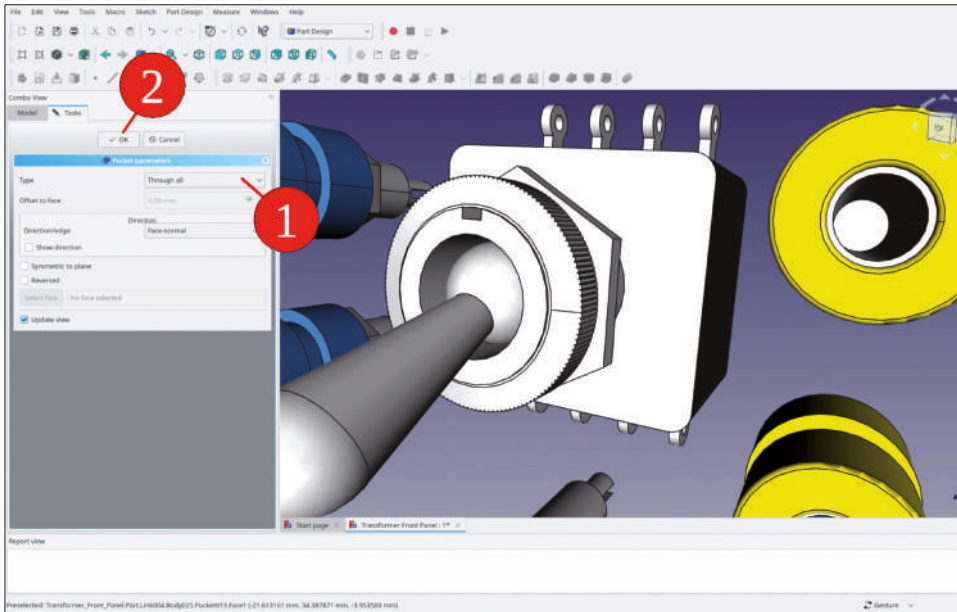

Figure 9-36
4. In the task window, enter 'Power' as the string, 6.5 mm for the height, and select 'RobotoCondensed-Light.ttf' for the font (from the 'Components' directory of the project, Figure 9-36). Click roughly on the panel where the text should be located. Then, close the task window with the 'OK' button. Only then, the text will be shown in the 3D view. In the tree view, rename the new 'ShapeString' object to 'ShapeString Power'.